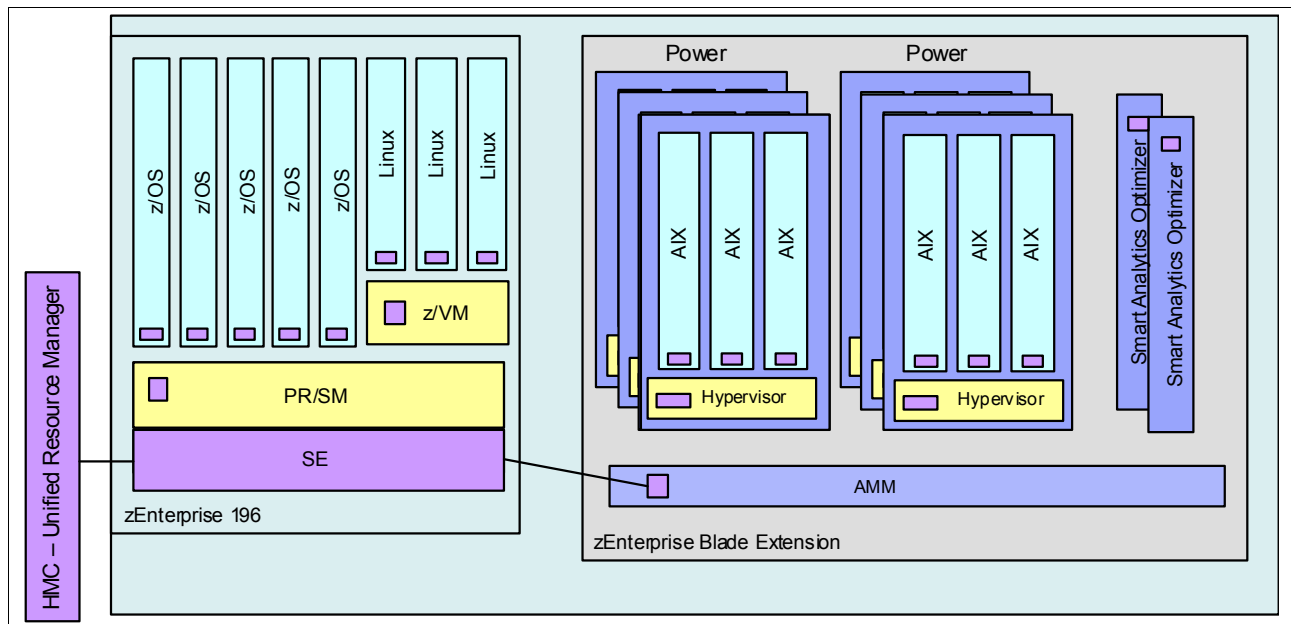

Figure 4-1 A logical view of an ensemble with unified resource management
Figure 4-1 shows a logical view of a single node ensemble and the Unified Resource Manager. Unified resource management is provided by zEnterprise firmware, also known as Licensed Internal Code (LIC), executing in the Hardware Management Console (HMC) and Support Element (SE).